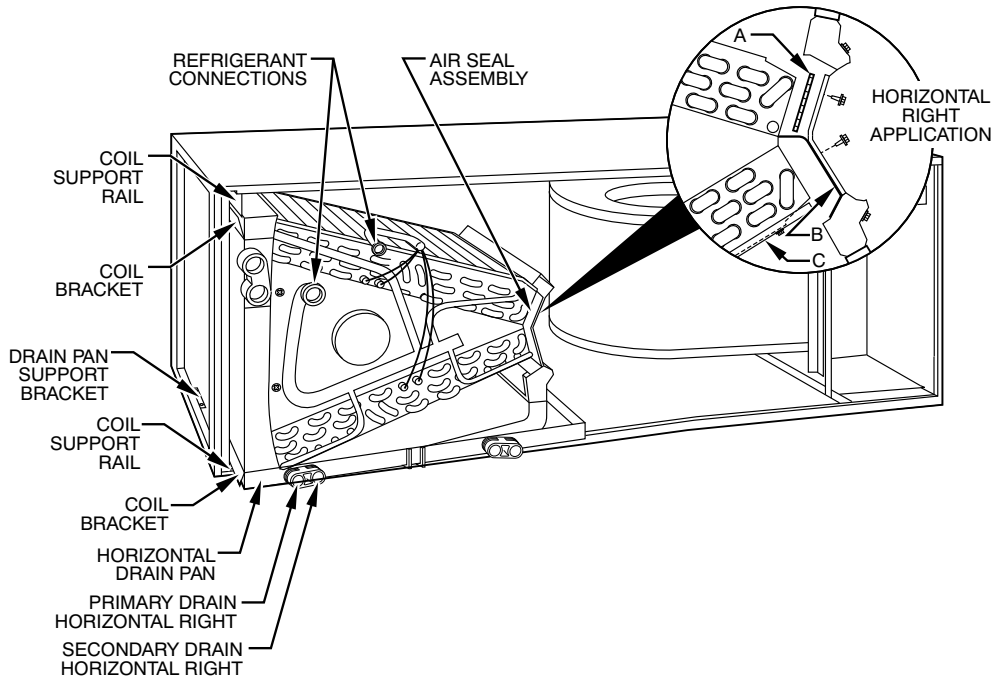

Fig. 5 – Conversion for Horizontal Right Applications - A-Coil Only
1. Remove blower and coil access panels (Fig. 5).
- a. Remove air seal assembly from coil by removing 4 screws (Fig. 5).